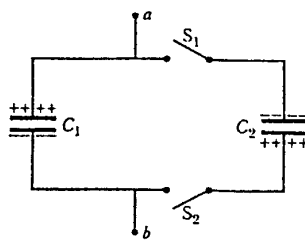

FIG. 26.3
3. In Figure 26.3, capacitors  $C_1 = 1.0 \mu\text{F}$  and  $C_2 = 3.0 \mu\text{F}$  are each charged to a potential difference of  $V = 100 \text{ V}$  but with opposite polarity as shown. Switches  $S_1$  and  $S_2$  are now closed. (a) What is now the potential difference between points  $a$  and  $b$ ? What are now the charges on (b)  $C_1$  and (c)  $C_2$ ?